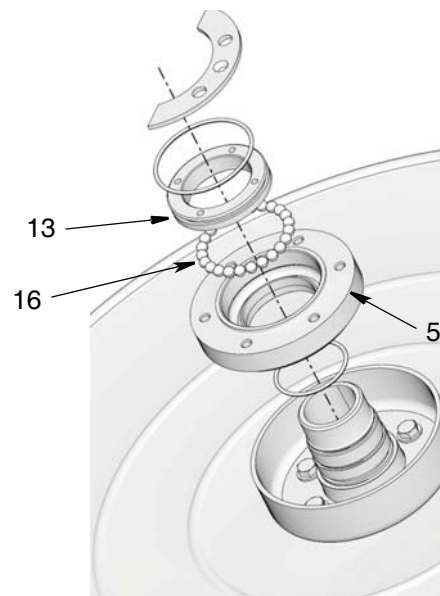

FIG. 25
- b. Use a spanner wrench to loosen bearing insert (13) nut. Once it is loose you can use your hand to unscrew and remove it (FIG. 25).
- c. Remove bearing retainer (5).
NOTE: Be careful when you remove the bearing retainer (5) that the bearing balls (16) do not fall out (FIG. 25).